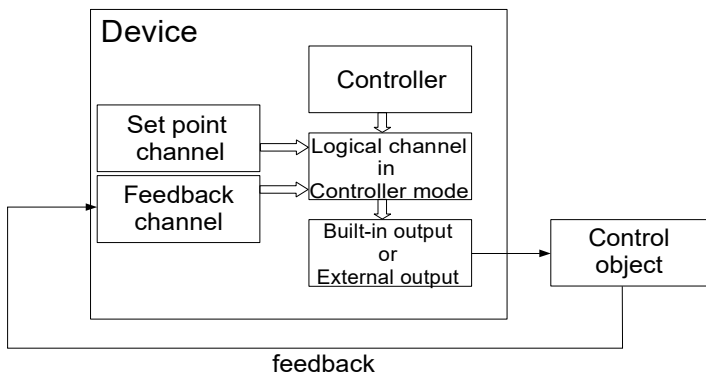
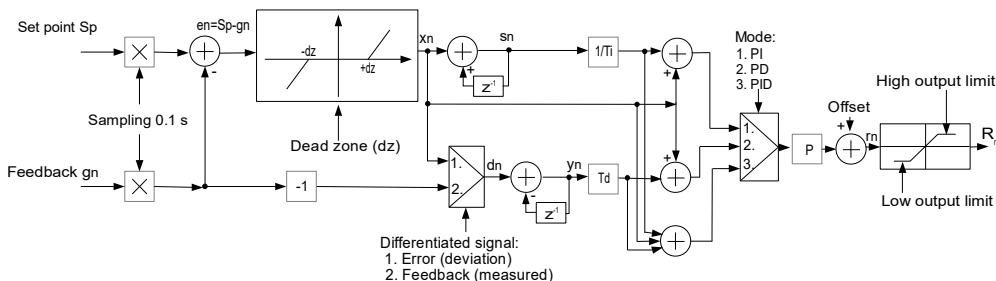
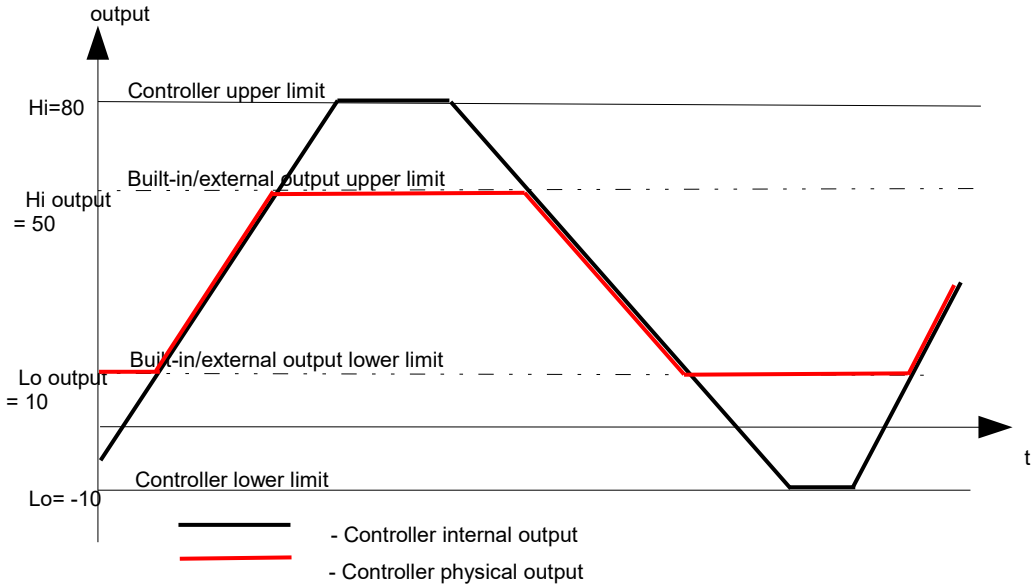

Fig. 7.120. Block diagram of the control loop of the object by MultiCon
Fig. 7.121. Block diagram of the **Controller** implemented in the device
Fig. 7.125. Control loop output limitation
- **Differentiated signal** - this parameter is available for the **PD** and **PID** mode and allows the selection of the option (see **Fig. 7.120** and **Fig. 7.121**):
**Note!** After offsetting the output signal the output value is limited to the range set in **Low output limit** and **High output limit** parameters (see Fig. 7.121),
Fig. 7.120 shows the block diagram of a control process of an object with the **Controller** implemented in the device. Set the setting of the selected Controller to be connected to the **Logical channel** operating in the **Controller** mode. In this **Logical channel**, select the **Set point channel** and the **Feedback channel**, which store the data required to control the object. Respectively, the **Set point channel** contains a destination value of the process,
In the **Fig. 7.125** an exemplary diagram of the output values of the control loop is presented. The diagram shows the double limitation of the control loop supplied to the object. The first limitation with a black line results from the output parameters of the Controller (logic channel output value in the controller mode, see **Fig. 7.120**), and the second limit marked with a red line results from the parameters built-in/external outputs (value transferred to controlled object, see **Fig. 7.120**).